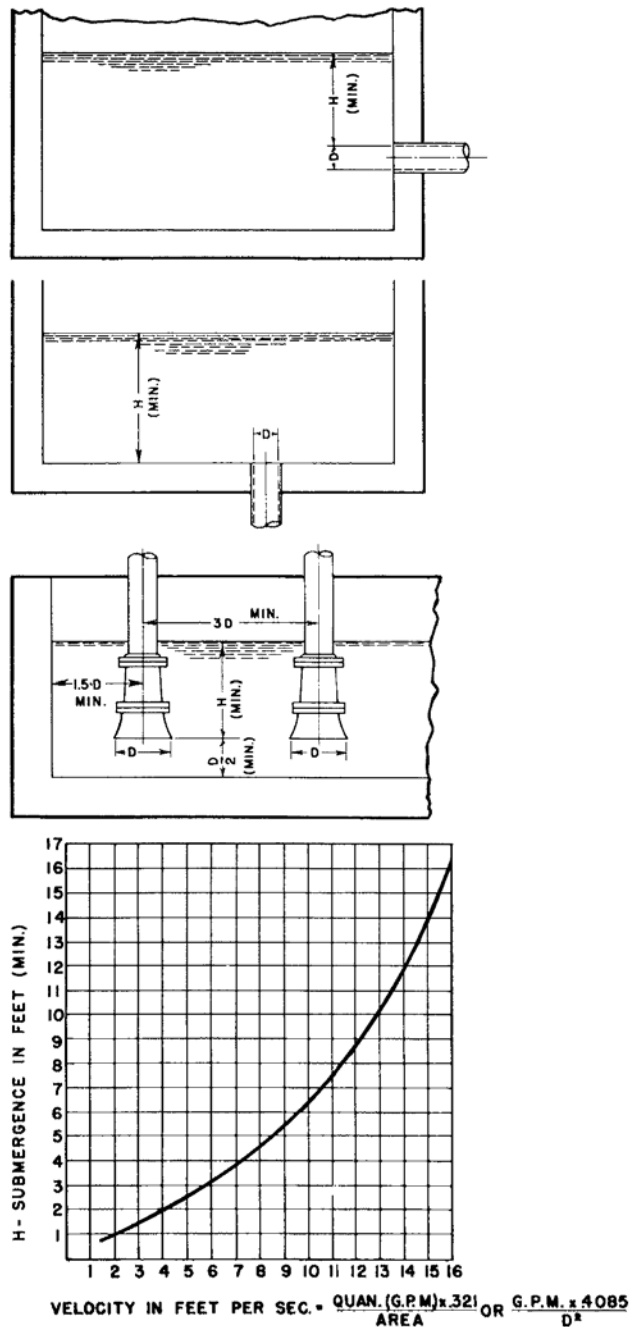

Figure 7: Pipe submergence and entrance calculation
- c) The suction pipe should always be submerged into the source of supply as shown in Figure 7: Pipe submergence and entrance calculation on page 15.
- b) The size of the entrance from the source of supply or minimum submergence over the entrance should be calculated from the data shown in Figure 7: Pipe submergence and entrance calculation on page 15 for applicable condition to prevent air from being drawn into pipe.